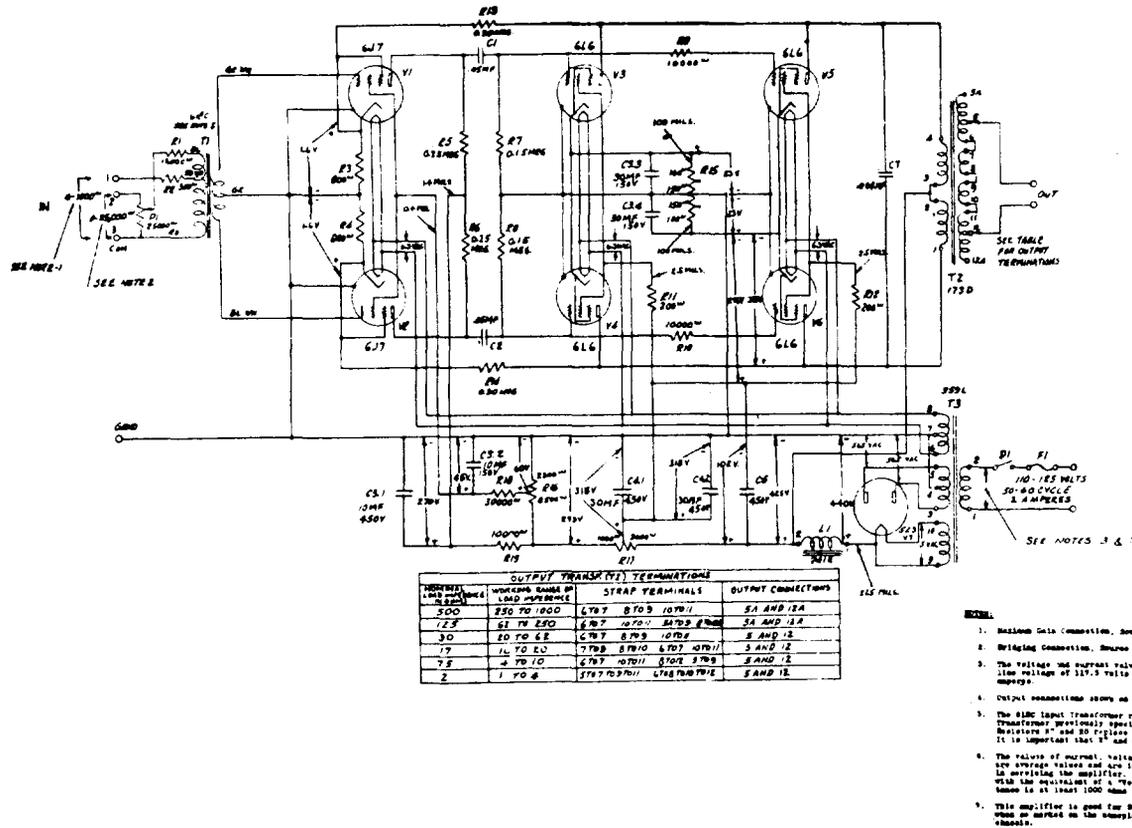
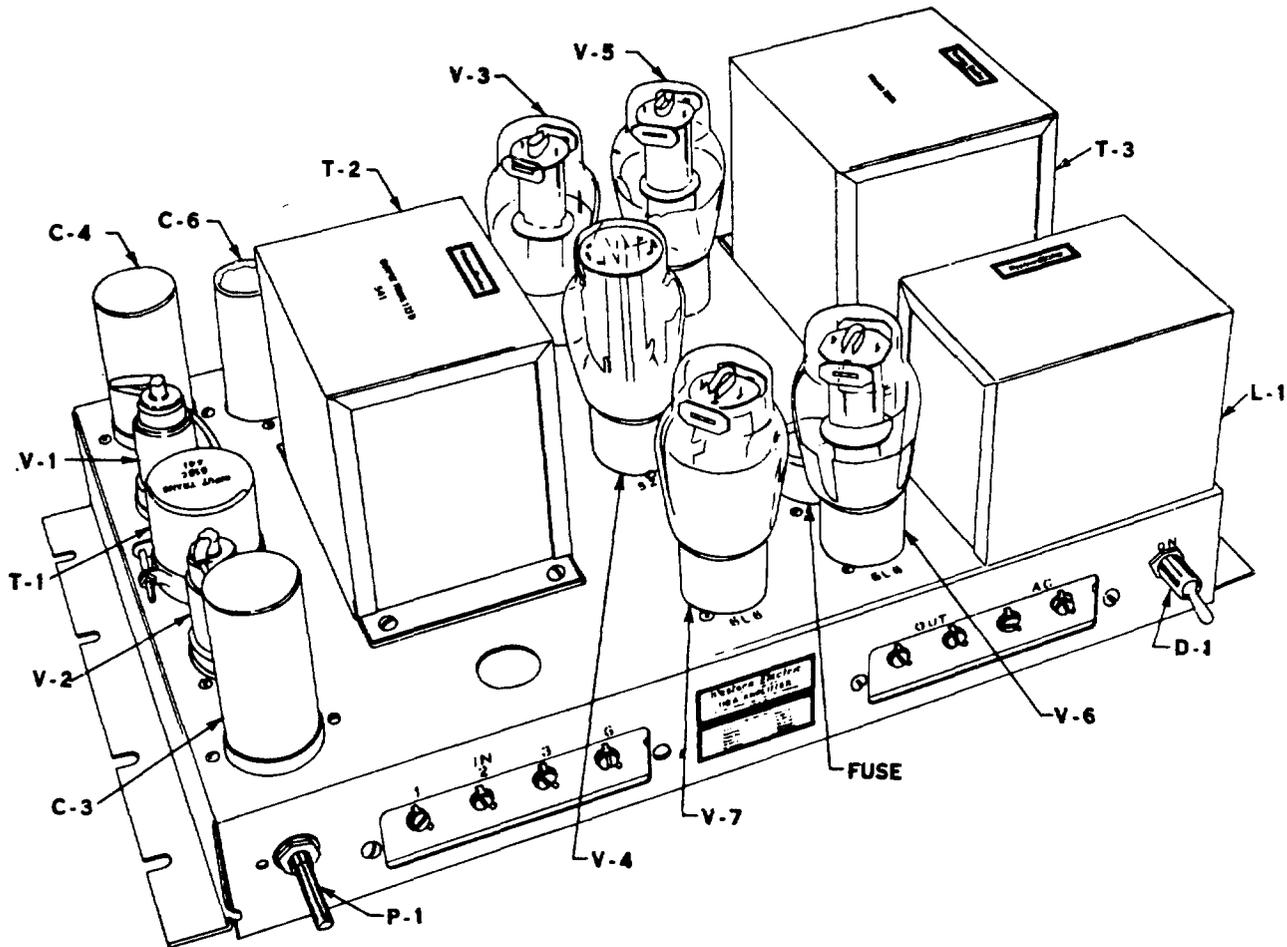

Fig. 1 - Schematic Drawing of 118A Amplifier
Fig. 2 - Top View of 118A Amplifier
2.01 The amplifying part of the circuit is basically a two stage amplifier employing a push-pull arrangement in the input stage and push-pull parallel arrangement in the output stage (see Schematic Drawing, Fig. 1). A top view picture and a bottom view picture of the 118A amplifier with composite parts of the amplifier designated are shown in Figs. 2 and 3, respectively.
2.02 Referring to Fig. 1, the audio frequency is fed into the primary of the input transformer T1. The secondary of this transformer supplies the audio frequency to the grids of the push-pull first stage amplifying tubes V1 and V2. The plate circuits of V1 and V2 are resistance coupled to the grid circuits of the push-pull parallel second stage tubes V3, V4, V5, and V6. The plate circuits of V3, V4, V5, and V6 are transformer coupled through T2 to a loud-speaker or to more than one loud-speaker if desired.
terminal directly to the lead of the 12,000-ohm resistor (R1) which formerly went to the gain control (see schematic Fig. 1).
4.07 In cases where a power output of 50 watts is not required and the a-c line voltage is less than 120 volts, satisfactory operation with a maximum output power of 25 watts may be obtained by removing two of the 6L6G type output tubes V5 and V6 (see schematic). These are the tubes located nearest the power transformer and the retard coil both of which are toward one end of the chassis. Equally satisfactory operation of the amplifier will result if tubes V3 and V4 are removed in place of V5 and V6. See Fig. 2 for tube locations.